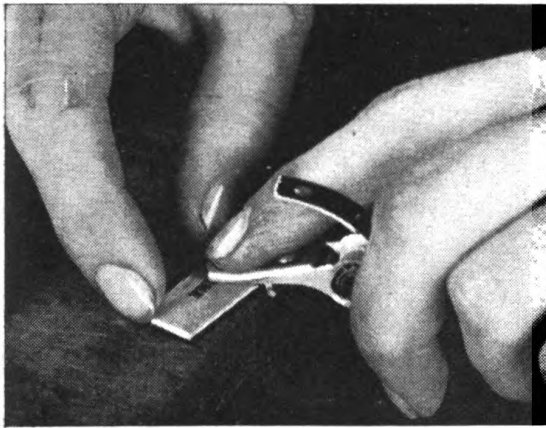

**Fig. 47. Testing Opening of Contact Points**
After long service, breaker points sometimes require adjusting Fig. 47. This operation is fully described on page 73 under Servicing at Base.
3. Make certain that the cam opens the breaker arm between .015 inch and .020 inch using the contact point opening gauge. Fig. 47.